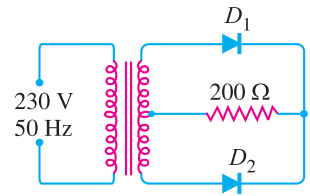

**Fig. 6.74**
3. Find the voltage  $V_A$  and current  $I$  in the circuit shown in Fig. 6.74. Use simplified model. [14 V; 2 mA]